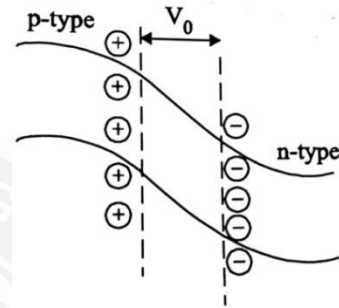

Fig. 4.19
- junction, which gives open circuit voltage  $V_0$  as shown in figure. 4.19.